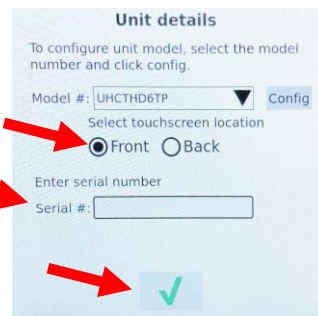

Figure 19
31. Press the Serial # field and use the keyboard to enter the serial number of the cabinet. When finished press the return key and the GREEN checkmark (see Figure 19).